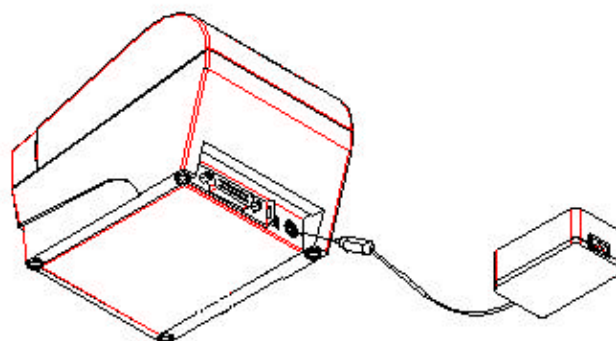

Figure 4
- 2) With the flat side of the AC adapter's cable connector facing downward, insert the cable connector into the power connector on the backside of the printer. See figure 4.